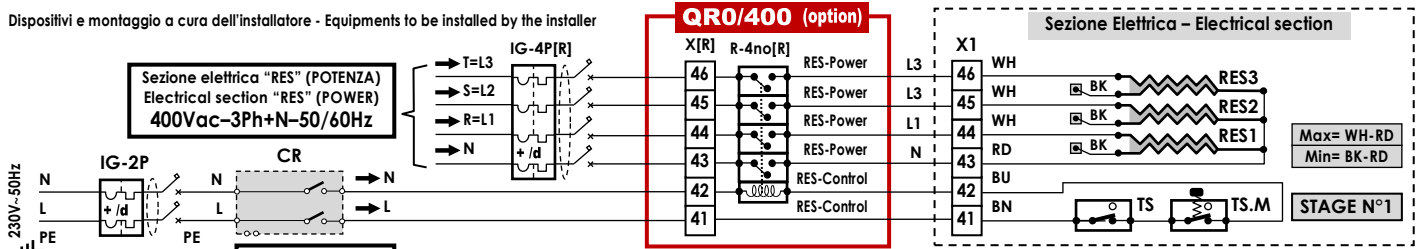
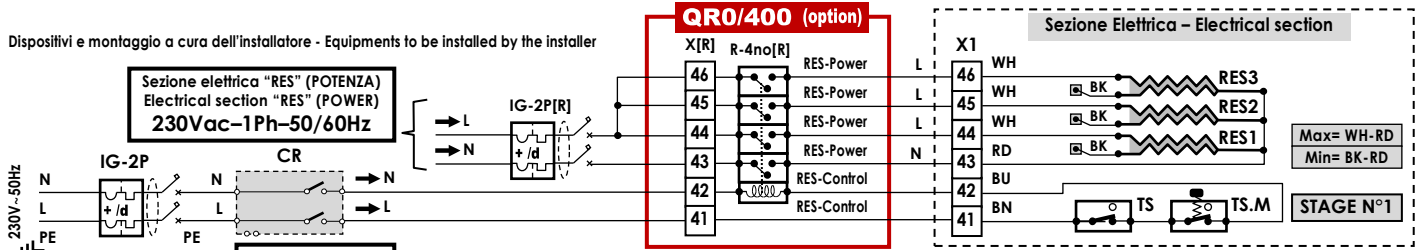
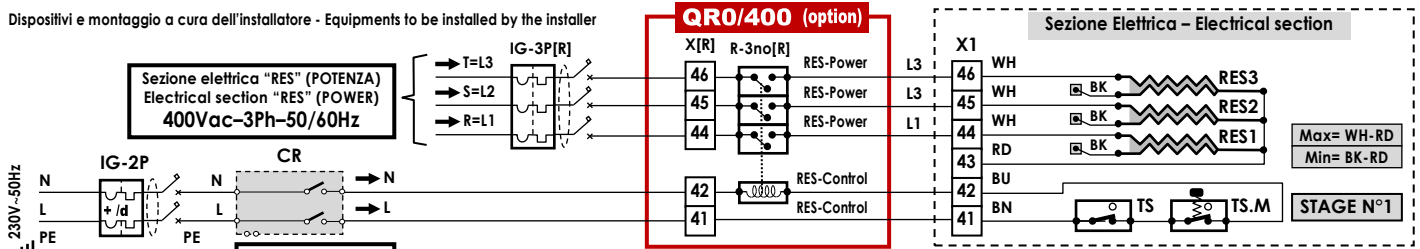
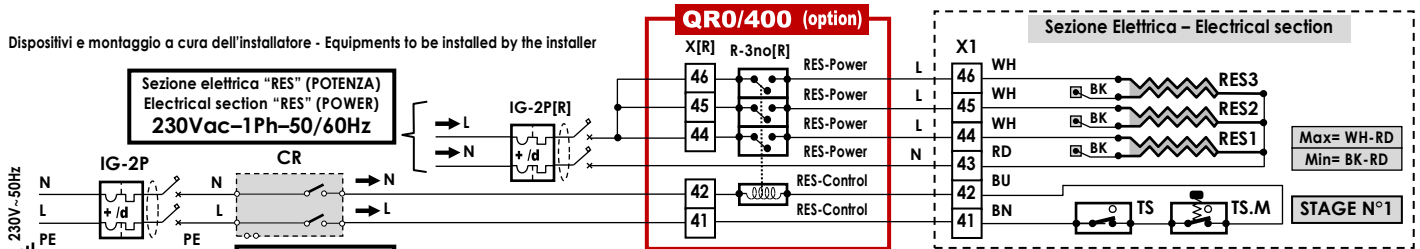

Fig.1
Fig.2
Fig.3
Fig.4
- Se la sezione elettrica 400V trifase è cablata con il Neutro (Fig.1), collegarla alla linea 230V monofase come da Fig.2, previa verifica portata contatti del relè. Infatti, con alimentazione 230V (Fig.2) la corrente totale, somma delle tre RES1+2+3, passa per il neutro N, mentre con alimentazione 400V trifase (Fig.1) sul neutro N non è previsto alcun passaggio di corrente. Se la portata del contatto del Relè che alimenta il neutro N non è sufficiente, by-passare con il Neutro il relè (utilizzare il relè 4-poli come fosse un relè 3-poli, realizzando lo schema di Fig.4).
- Se la sezione elettrica 400V trifase è cablata senza il neutro (Fig.3), collegarla direttamente alla linea 230V monofase come da Fig.4, senza necessità di alcuna verifica.
In particular, the banks of resistances "RES" 400Vac three-phase consist of 3 banks of equal resistances 230Vac single-phase (3 resistances or multiples: 3, 6, 9, 12, 15, etc.), with the same power (balanced load), with star electrical connection, where the extremes become the 3 phases R-S-T and the star center becomes the Neutral (Fig.1,3).
The neutral is always wired at the factory to the terminal board. Even if the center of the star (= Neutral) is not connected to the power network (Fig.3), the star connection of the same resistive loads guarantees perfect operation and conformity (balanced load).
- If the 400V three-phase electrical section is wired with the Neutral (Fig.1), connect it to the 230V single-phase line as shown in Fig.2, after checking the relay contacts capacity. In fact, with a 230V power supply (Fig.2) the total current, sum of the three RES1+2+3, passes through the neutral N, while with a 400V three-phase power supply (Fig. 1) there is no current flow on the neutral N. If the capacity of the relay contact that supplies the neutral N is not sufficient, by-pass the relay with the Neutral (use the 4-pole relay as if it is a 3-pole relay, making diagram in Fig.4).
- If the 400V three-phase electrical section is wired without the neutral (Fig.3), connect it directly to the single-phase 230V line as shown in Fig.4, without the need for any checks.